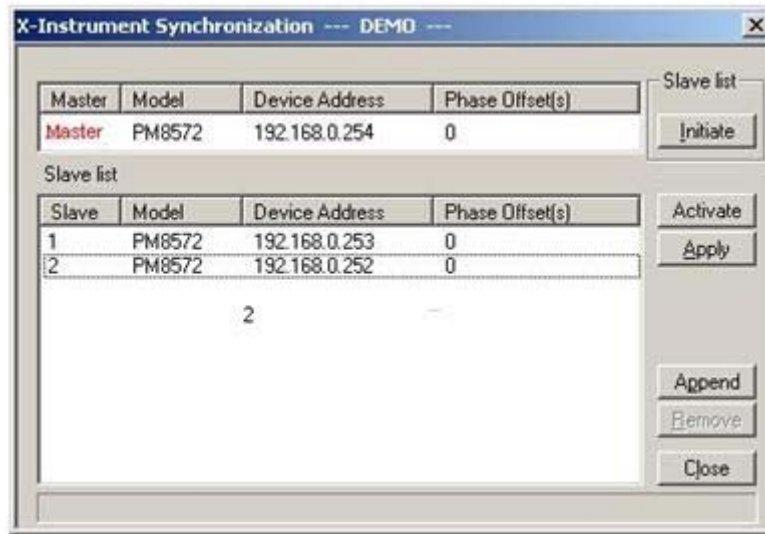

Figure 3-29: Multi-Instruments Synchronization Dialog Box Example
8. The final step is to activate the synchronization. This is done from the X-Instruments Synchronization dialog box, as shown in Figure 3-29. Click on Activate to start the synchronization, click on the same button to toggle synchronization off.